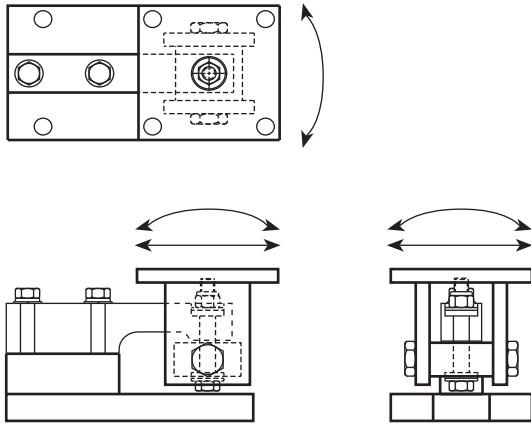

Figure 14-10. RL1900 Modules
The RL1900 module is similar in design to the RL1800, but accommodates slightly more lateral movement than the RL1800. See Figure 14-10.
3. A chair arrangement is attached to the trunnion block through pivot screws; the load is applied to the top plate of this chair. This arrangement allows the chair to move in the directions indicated in Figure 14-10.